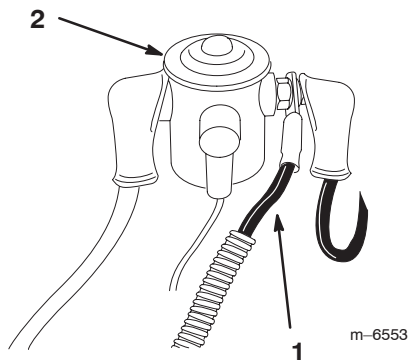

Figure 7
13. Connect the red power wire to the left side of the solenoid (Fig. 7), located under the seat.